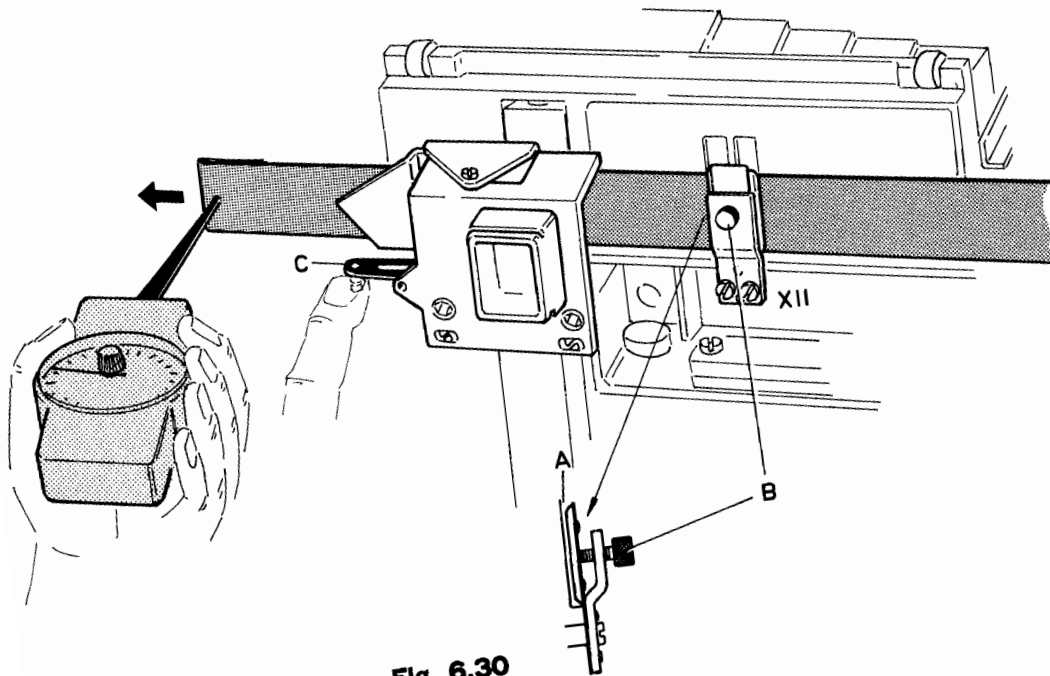

Fig. 6.30
- Fig 6.30
1. Remove spring-mounted tape guide and screw special tool XII in place as shown in Fig 6.30.